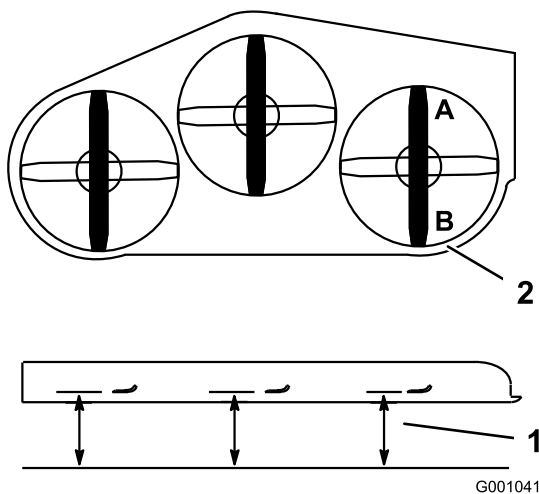

Figure 92
2. Position one blade front-to-rear. Measure at **A** and **B** locations from a level surface to the cutting edge of the blade tips (Figure 92).